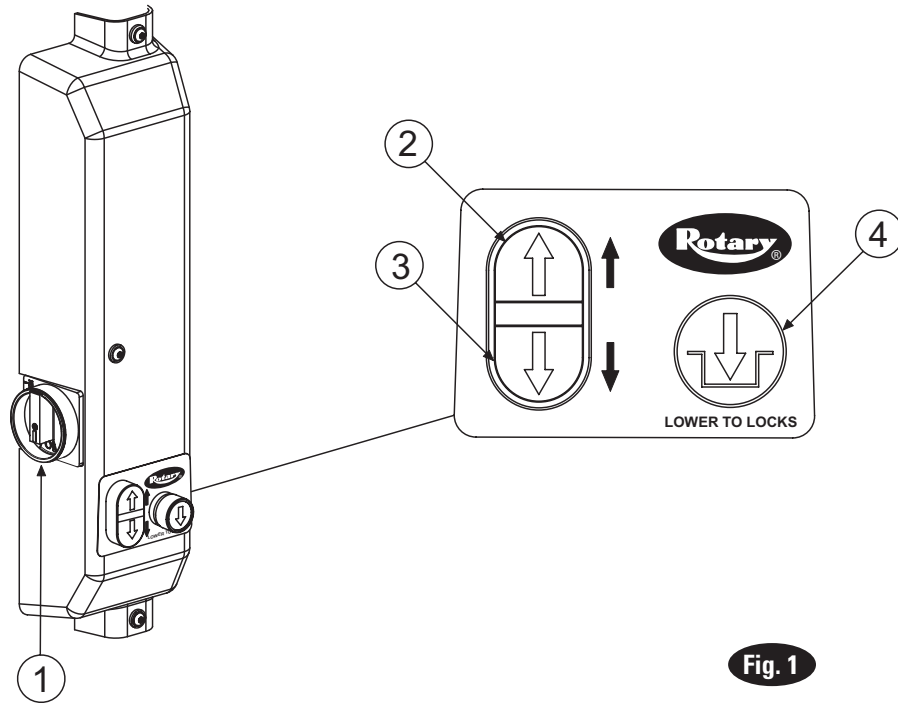

Fig. 1
- Actuate  switch, Fig. 1. Stop before making contact with vehicle. Check arm restraint pins for engagement. If required, slightly move arm to allow restraint gear and pawl to mesh. DO NOT hammer pin down as this will damage the restraint gear teeth.
- Actuate  switch, Fig. 1, to lower lift onto latches after desired height is reached.
- Always use safety stands as needed for stability when removing or installing heavy components. (engines, transmissions, etc.) Use (4) safety stands.